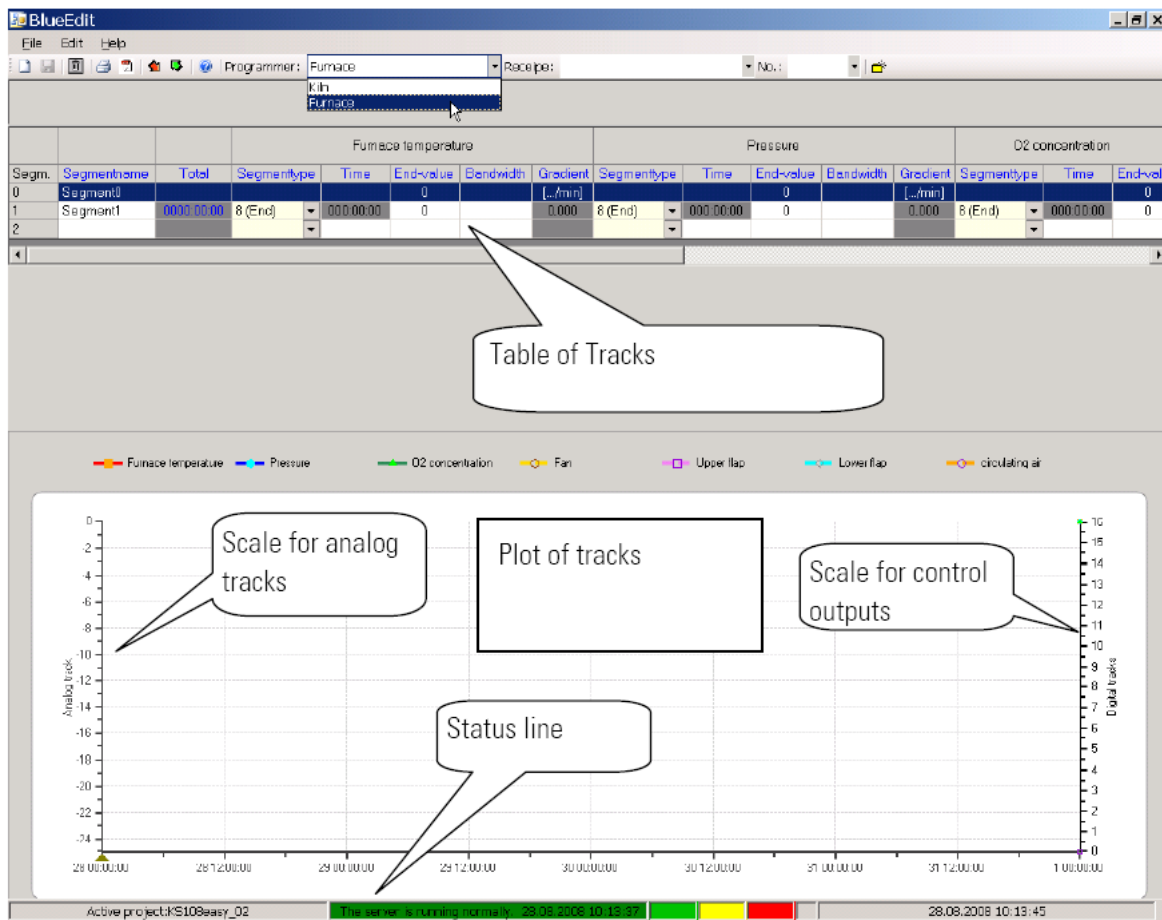

Fig. 29: Start screen and programmer selection
- 1.. Select the programmer for which you want to create a recipe (Fig. 29, mouse pointer).